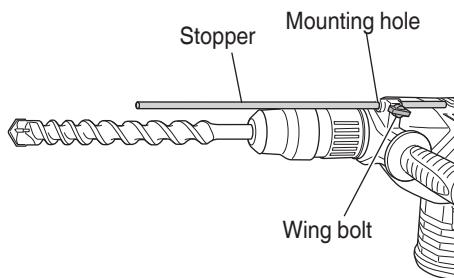

Fig. 11
- Switch the selector lever to "hammering" according to the procedures mentioned in the above item (1) and secure the position of the tool.
5. Install the stopper (Fig. 11)